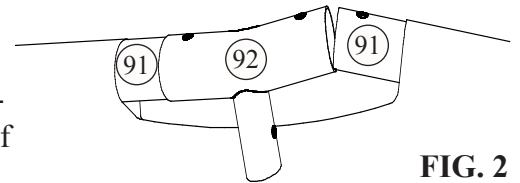

FIG. 2
3. When you get to the last connection, install the last Tee Fitting on the end of one of the beams. Lift up on both of the last two Beams in order to get them to insert into the Tee Fitting. Angle them towards each other and guide the Beam into the Fitting as you lower them both down together. See Fig. 2. This step may require two people. Now, begin inserting the Pins (93) down through the top of the Tee Fittings until the Pin snaps into place on the lower side of the Fitting as shown in Fig. 3.